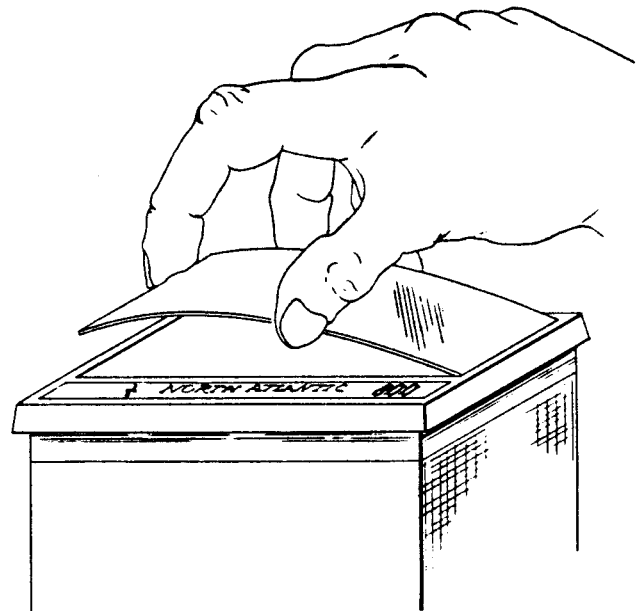

Figure 1-6. Replacement of Lens
- e. Replace lens, glossy side inward, by bowing slightly and resting the edges into the unit edge grooves (figure 1-6). Release lens, allowing it to snap into place.